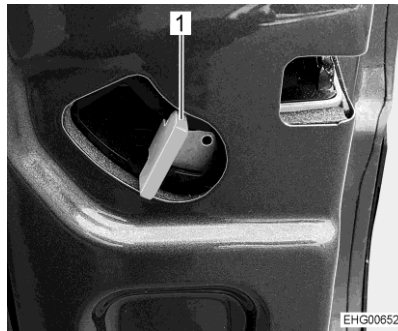

Fig. 14 Handle for opening the rear doors
- Push the handle (Fig. 14,1) upwards and open the rear doors as far as they will go.